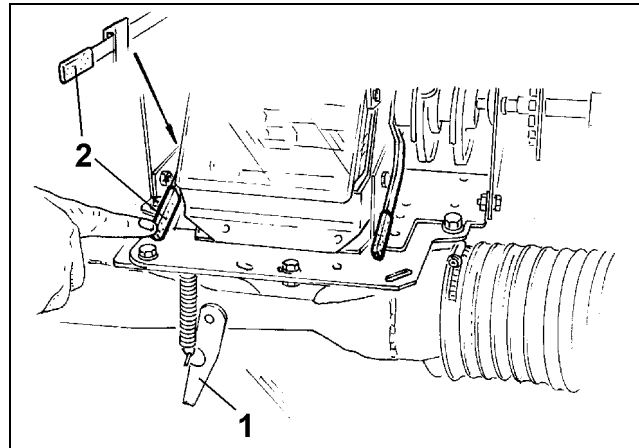

Fig. 104
- the injector sluice flap (Fig. 104/1) and
For opening the emptying flap behind the metering unit, press lever (Fig. 104/2) downwards and arrest.